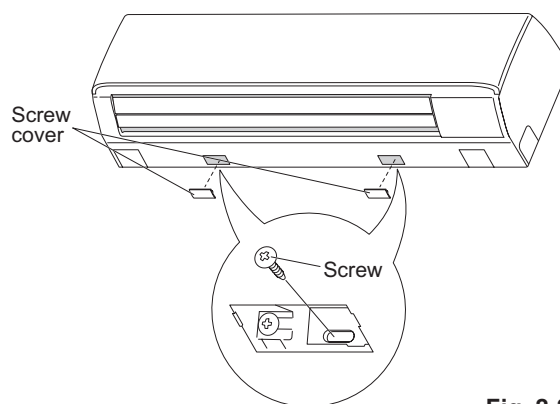

Fig. 2-263
(Fig. 2-263)
- (2) Fasten the frame to the rear panel using the 2 supplied tapping screws 4 x 10 mm. (Fig. 2-263)
- (3) Press the 2 Δ marks on the lower part of the indoor unit and unlatch the tabs. Then lift the indoor unit and unmount.